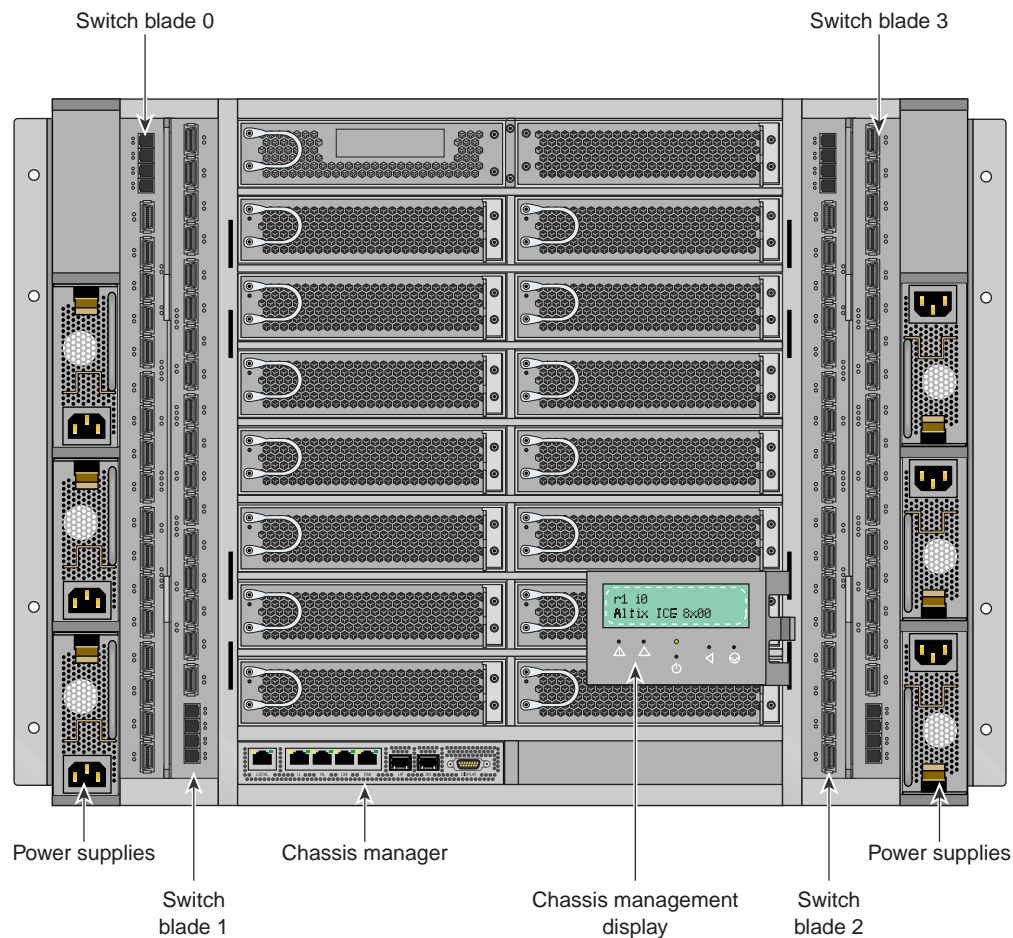

Figure 3-10 Altix ICE 8400 Series IRU System Components Example
- **Individual Rack Unit (IRU).** This enclosure contains the compute/memory blades, chassis manager, InfiniBand fabric I/O blades and front-access power supplies for the Altix ICE 8400 series computers. The enclosure is 10U high. Figure 3-10 on page 39 shows the Altix ICE 8400 series IRU system components.